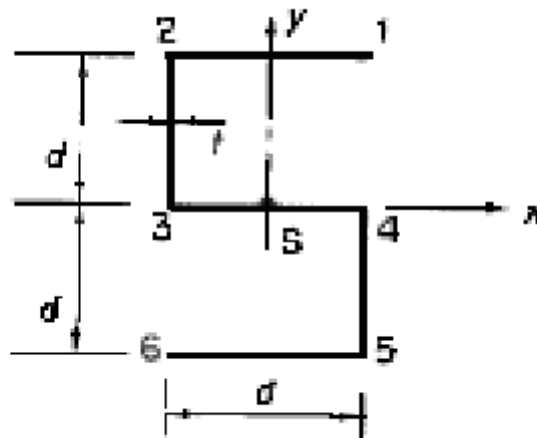

Figure 10:
8. An axially symmetric beam has the thin-walled cross-section shown in Figure 10. If the thickness  $t$  is constant throughout and making the usual assumptions for a thin-walled cross-section, show that the torsion bending constant  $\bar{R}$  calculated about the shear centre  $S$  is  $\bar{R} = \frac{13}{12}d^5t$ . [16]